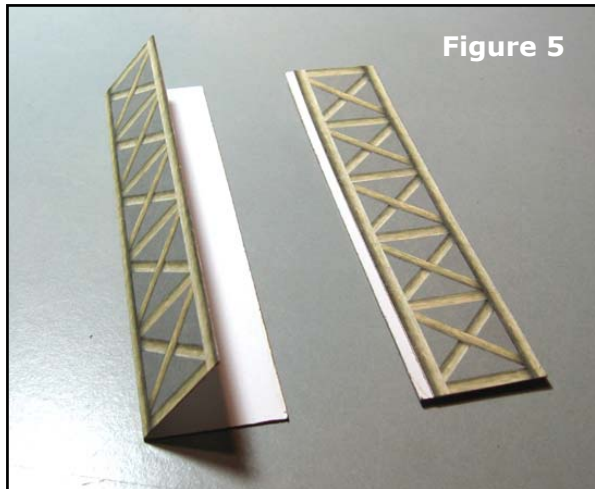

Figure 5
4. Align the bottom of the railing with the bottom of the support beam (Figure 5).